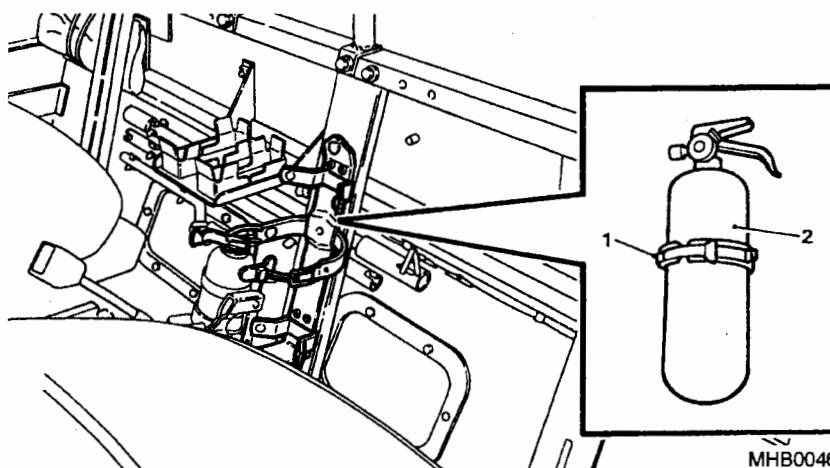

Fig 27 Fire extinguisher bracket
47.1 Pull the strap (Fig 27 (1)), which releases the retaining bracket.